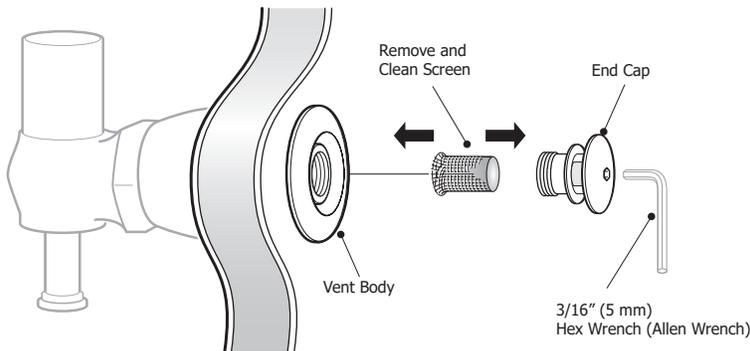

Figure 5. P-trap Vent.
1. Use a 3/16" (5mm) hex wrench (allen wrench) to turn cap off counter-clockwise. Set cap aside for re-installation. (Figure 5)